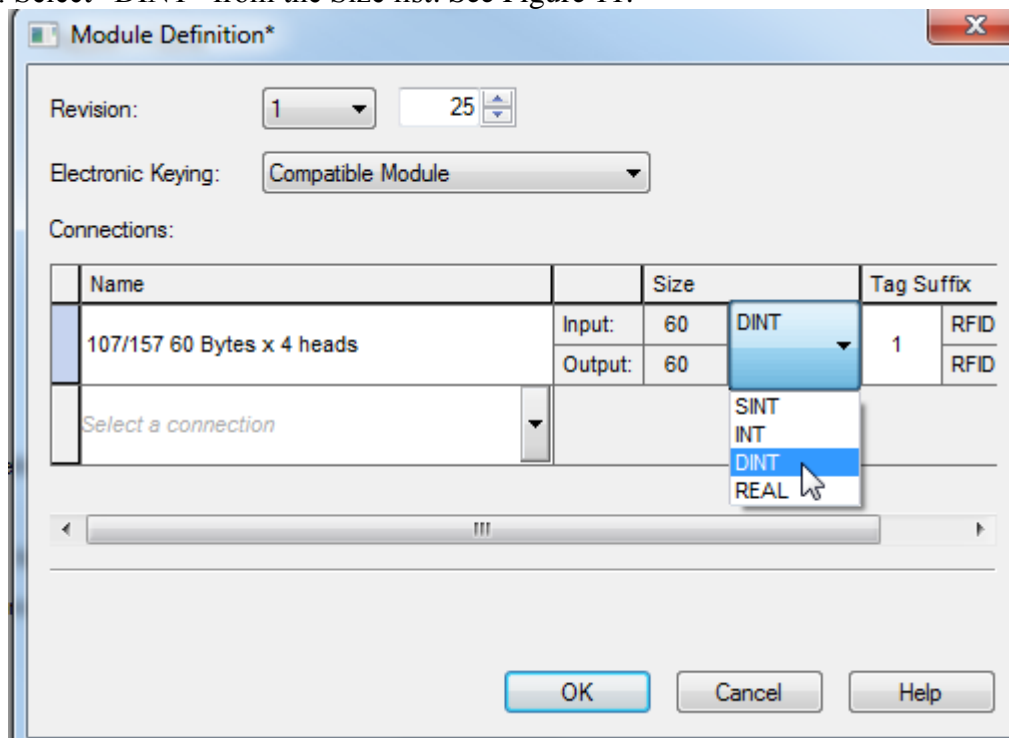

Figure 11: Change the size to DINT
Step 6: Select “DINT” from the Size list. See Figure 11.